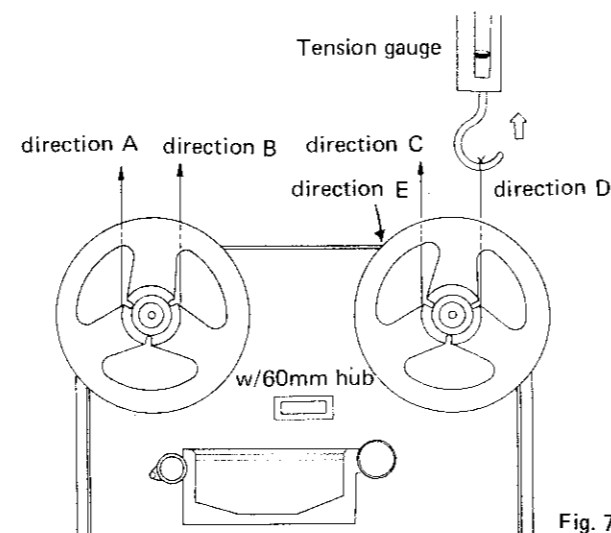

Fig. 7
#### • Adjustment Steps (Figs. 7 & 8)
2. With tape deck vertical, perform 19 cm/s playback and measure back tension of supply reel hub (pull in direction B of Fig. 7).
2. With deck in vertical position, perform 19cm/s playback and measure take-up reel torque (transmitted during take-up in direction E of Fig. 7).
1. With deck vertical, measure supply reel back tension (direction B of Fig. 7) during fast forward.